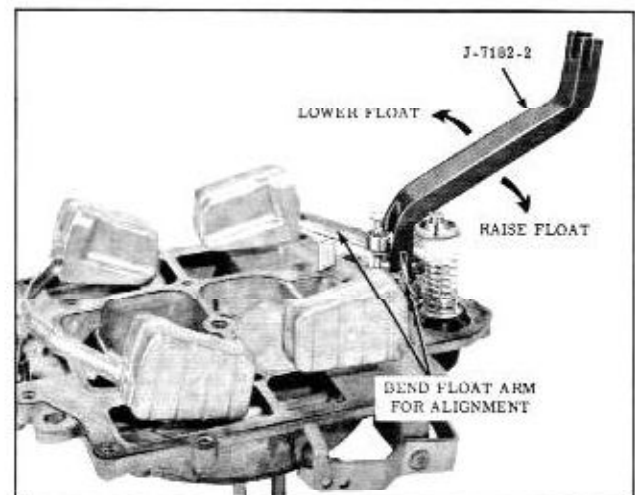

Fig. 8-119 Adjusting Float Level (Primary Shown)
3. If necessary to adjust, bend the float arm as indicated in Fig. 8-119.